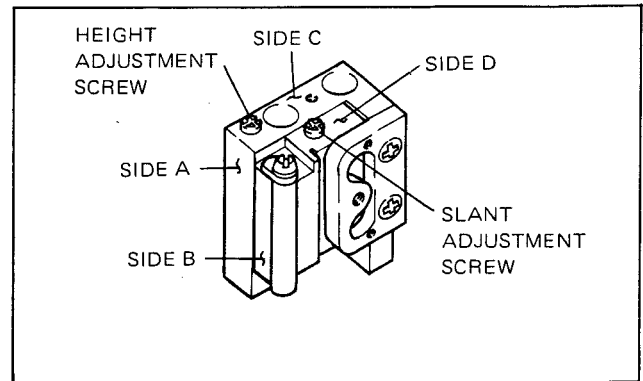

Fig. 6-32. Slant and Height Adjustment of Exit Slant
12. Turn the slant adjustment screw so that the "B" side is parallel with "A" side (see Fig. 6-32).